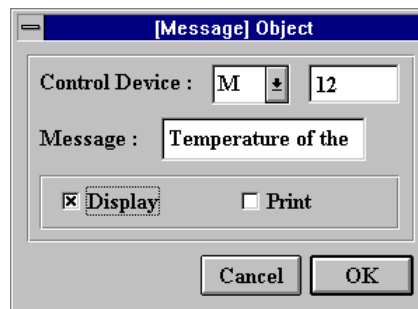

Fig. 3-32: Message Object Dialog
- 2) Click on the **Append** button to create a new message object or click on the **Modify** button to modify an existed message object. A message object dialog as shown in Fig. 3-32 is popped up. If you click on the **Delete** button, the current selected object is deleted.